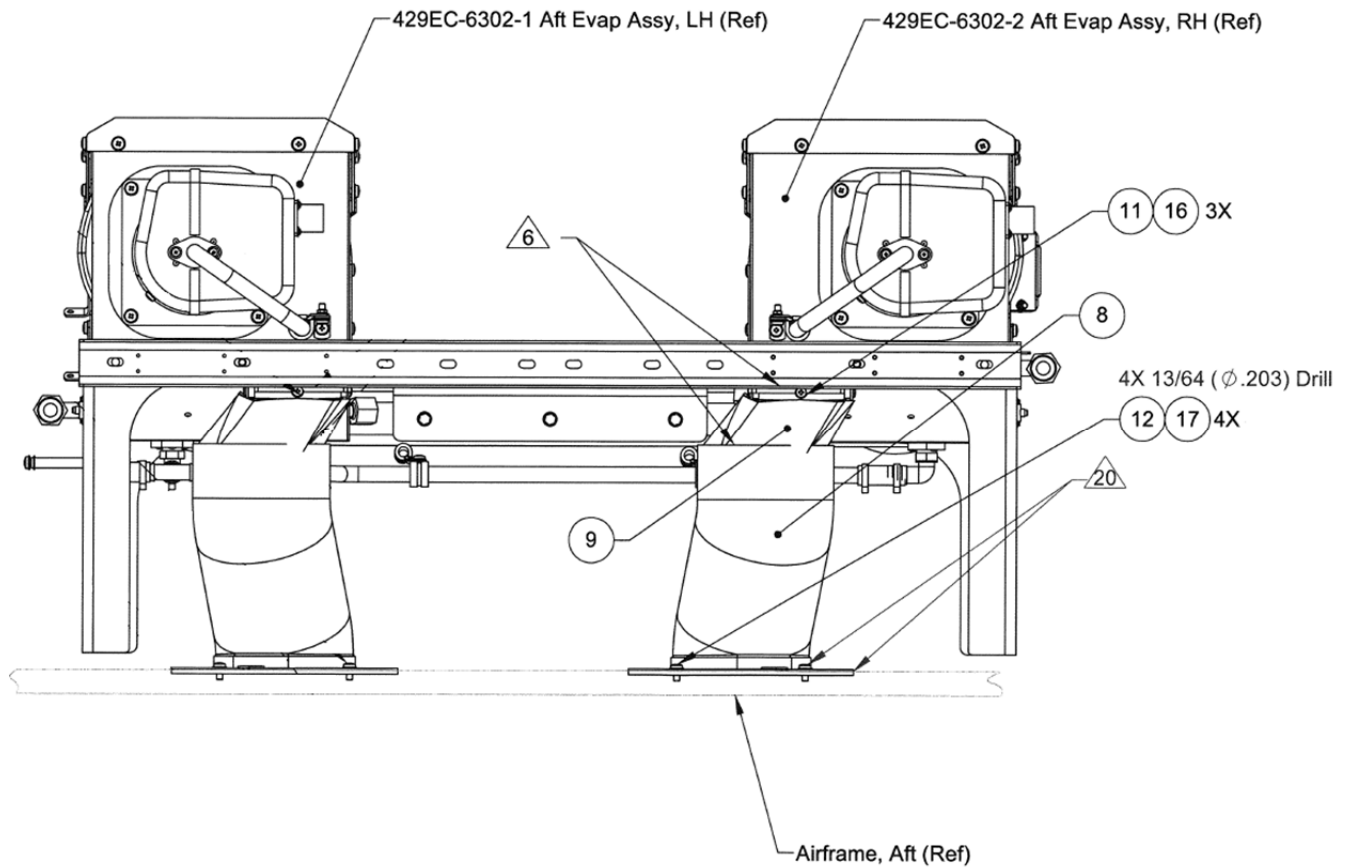

Figure 12: LH Aft Evaporator Outlet Ducting – View Looking Forward
- b. Install LH aft evaporator as follows (Figure 12, 13, 14, & 15):
- 1) Prior to installing LH aft evaporator assembly, fasten 429EC-6820-2 (Item 9) upper outlet duct assembly to outlet of aft evaporator with attaching hardware. (Figure 12)
- 3) Locate LH aft evaporator with aft evaporator outlet duct 429EC-6820-2. Install as shown. (Figure 12)
- 9) Rotate 429EC-6820-1 lower outlet duct assembly to be concentric with \varnothing 4.40 hole in airframe, aft. Match-drill 429EC-6820-1 lower outlet duct assembly flange with holes in airframe (4X each). (Figure 12)
- 10) Fasten 429EC-6820-1 lower outlet duct assembly to airframe, aft with indicated hardware and existing inserts. (Figure 12)
- 11) Seal completely around joint using GE RTV103 Black Silicone Rubber Adhesive Sealant (4 Plcs). (Figure 12, Flag Note 6)
- 13) Seal all around Flange and Hardware using Pro Seal 890-B2. (Figure 12 & 19, Flag Note 20)